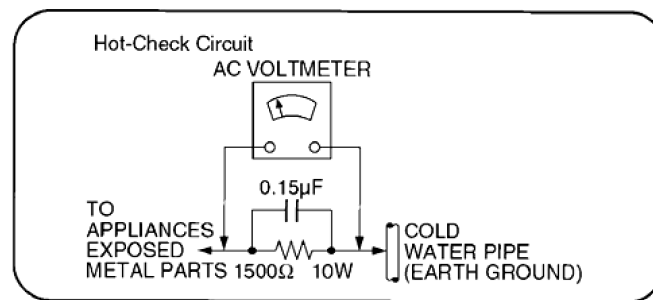

Fig. 1
1.1.2. Leakage Current Hot Check (See Figure 1)
2. Connect a 1.5kΩ, 10 watts resistor, in parallel with a 0.15µF capacitor, between each exposed metallic part on the set and a good earth ground such as a water pipe, as shown in Figure 1.